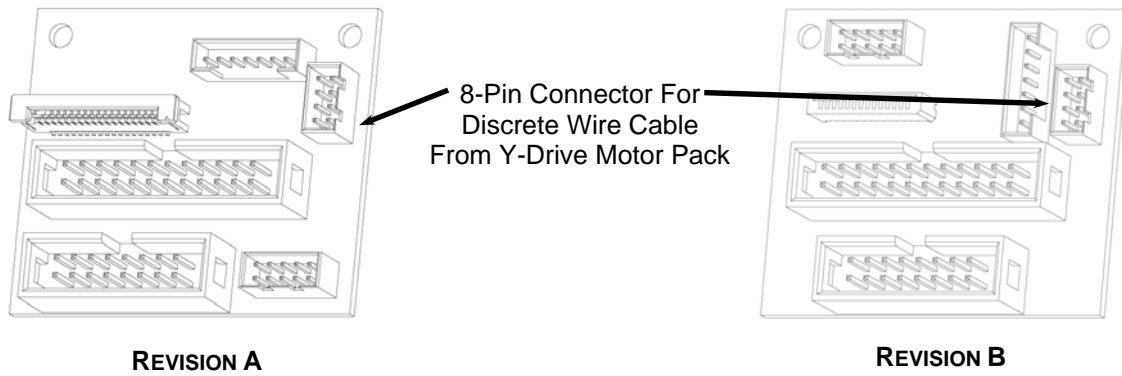

FIGURE 10: LOCATION OF CONNECTOR FOR HEAD COVER CABLE FOR THE EARLIER REVISION A AND LATER REVISION B MACHINES
- Unplug the 8 pin Y-Truck Motor Pack cable from the head connector board attached just to the left of the Y-truck motor pack.** The location of this connector on the connector board may vary slightly depending on the machine's production date (See Figure 10).